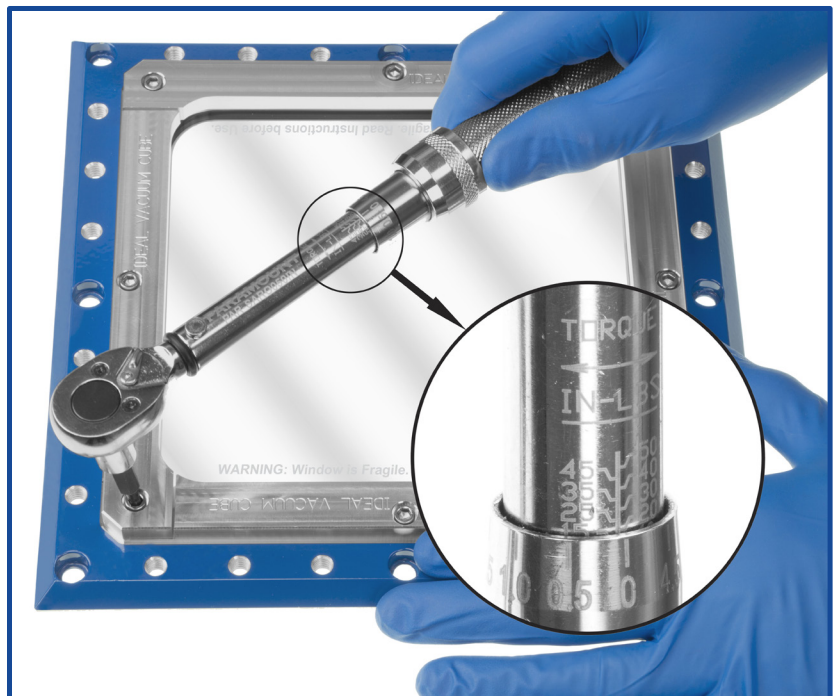

Figure 17 - Torque bolts to 20 in-lb.
6. Finish tightening the bolts using a torque wrench set to **20 in-lb.** (maximum), as shown in Figure 17.